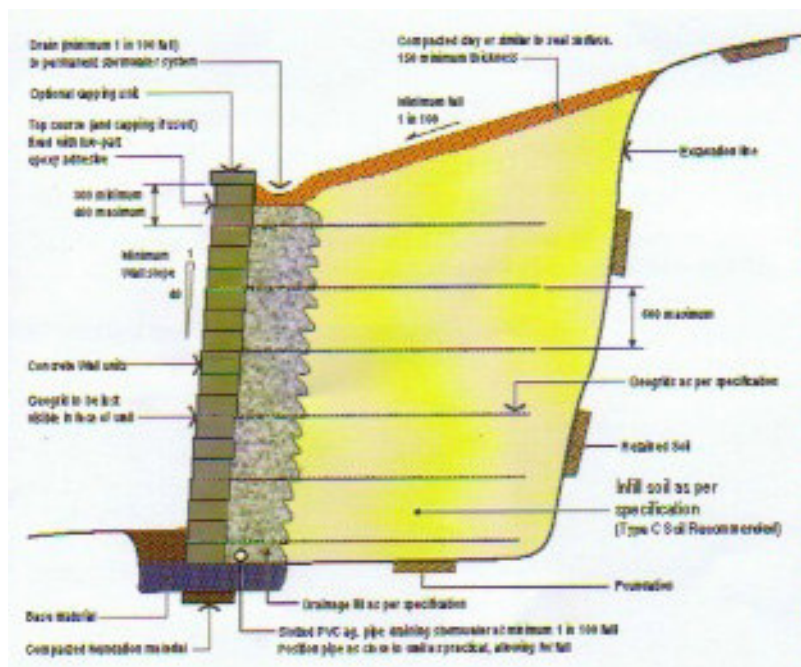

Figure 2
- Care should be taken wherever possible to divert water away from the wall face. If unable to do so, place a 100-150mm clay (or similar) impermeable layer on top of the wall fill, as shown in figure 2.
(See Figure 2)
5. Drainage shall be supplied in the form of a slotted P.V.C ag-pipe with geotextile sock drain (as shown in figure 2, fall at 1:100min. to S/W disposal system) or with deep holes. A 300mm drainage layer of uniformity graded gravel shall be provided behind the wall.